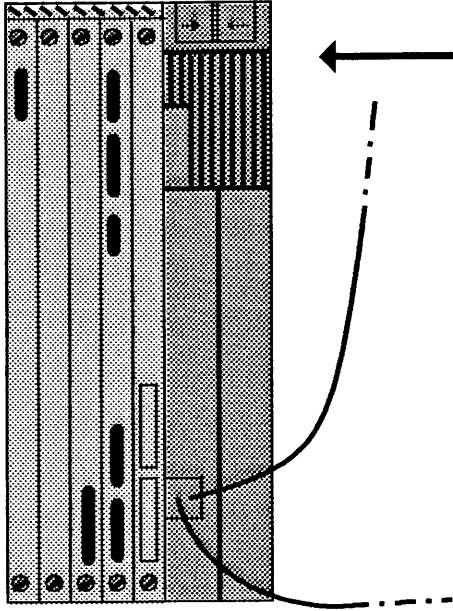

Figure 28. Closing the Processor Unit Rear Cover
7. Close the rear cover of the processor (Figure 28).